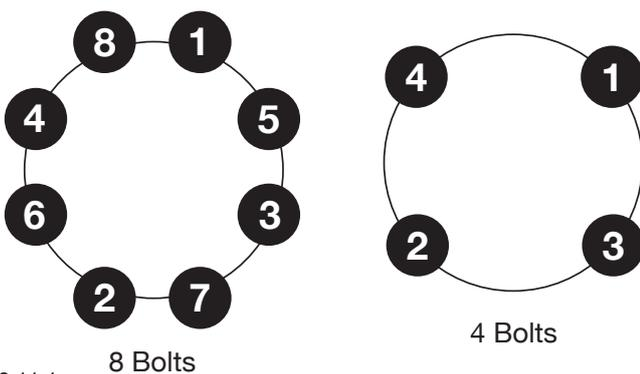

Fig. 2.11.1
- Location bolts may be inserted in the first four positions as shown in Fig. 2.11.1
- Lightly tighten the four location bolts in the order as shown in Fig. 2.11.1 to secure the adjoining flange.
- Insert the remaining bolts and, using a torque wrench, tighten in the correct sequence (see Fig. 2.11.1). Where flanges have more bolts than shown follow the principle of tightening diametrically opposite bolts.
- Tighten gradually and ensure that a sufficient number of circuits are undertaken to achieve the specified bolt torque (see Fig. 2.11.1).